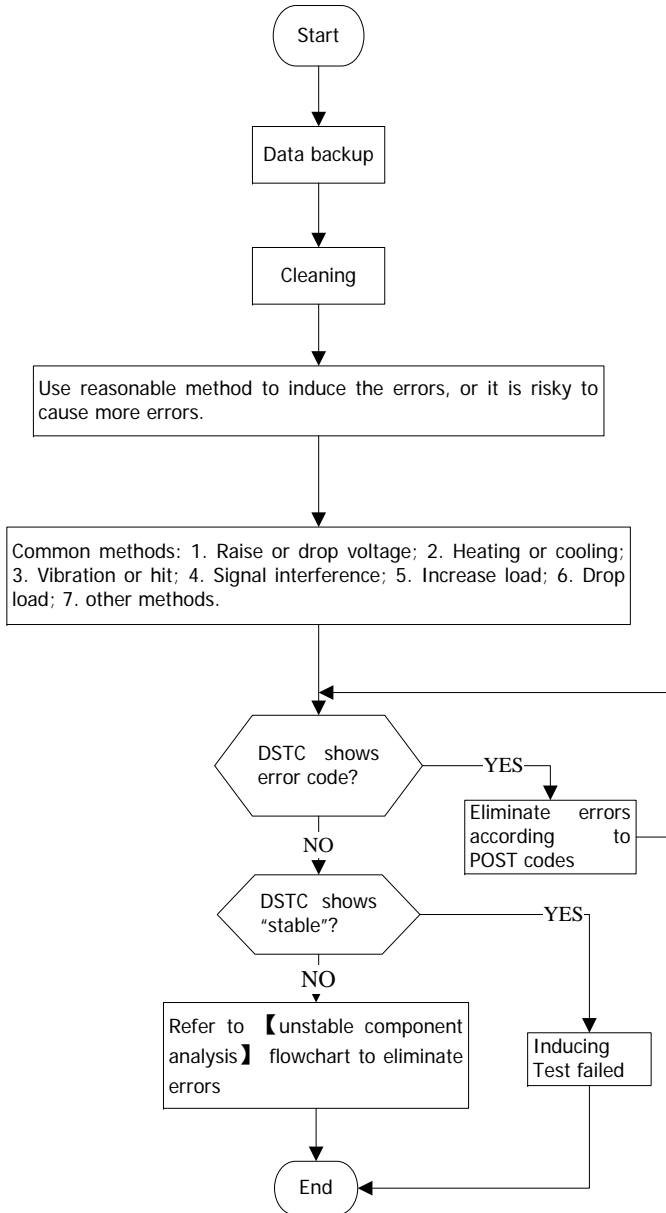

Figure 5 Reset Error Analysis
2. Bad Reset circuit	Refer to Figure 5